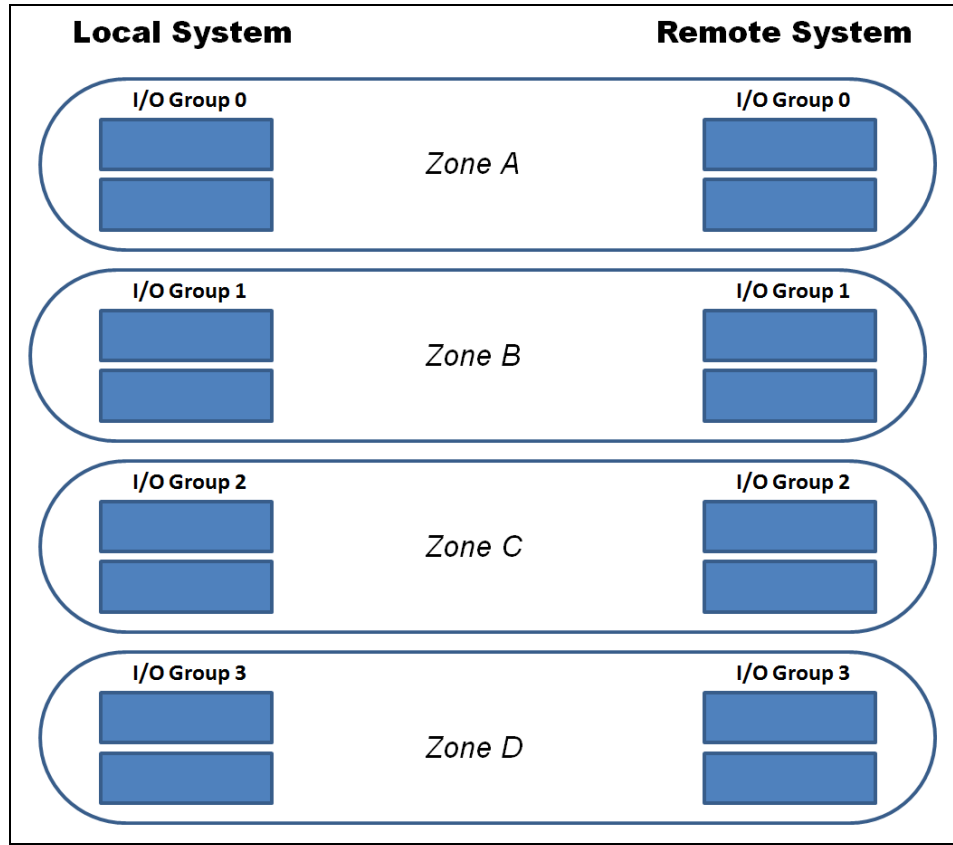

Figure 6-24 Zoning scheme for >80 ms Remote Copy partnerships
- ▶ For Remote Copy configurations where the round-trip latency between systems is more than 80 milliseconds, apply SAN zoning to provide separate intrasystem zones for each local-remote I/O group pair that is used for replication, as shown in Figure 6-24.